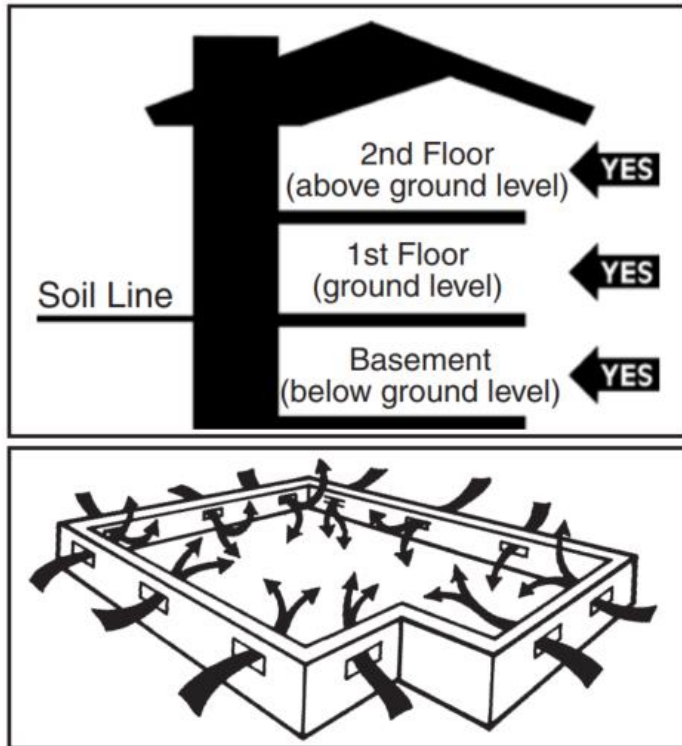

Figure 1
- Crawl spaces must be a minimum of 18” (46 cm) from the ground to the underside of the joists. A ground cover of 6-20 mil black polyethylene film is essential as a vapor barrier with joints lapped 6” (15 cm) and sealed with moisture resistant tape. The crawl space should have perimeter venting equal to a minimum of 1.5% of the crawl space square footage. These vents should be properly located to foster cross ventilation (Figure 1).